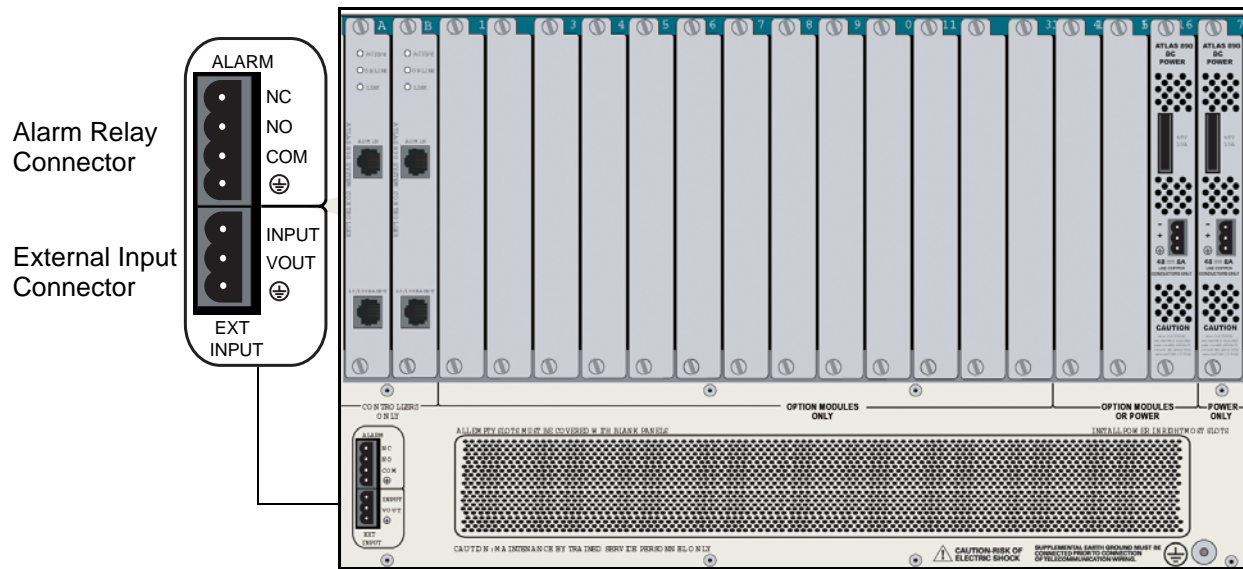

Figure 3. ATLAS 890 Rear View
1. To sense the **relay closure**, connect VOUT (-48VDC limited to 1 mA) to the COM of the relay to be monitored (see Figure 3 on page 352). Connect INPUT to the normally open (NO) contact of the device to detect when the relay is energized or the normally closed (NC) to detect when the relay is de-energized (see Table 2).